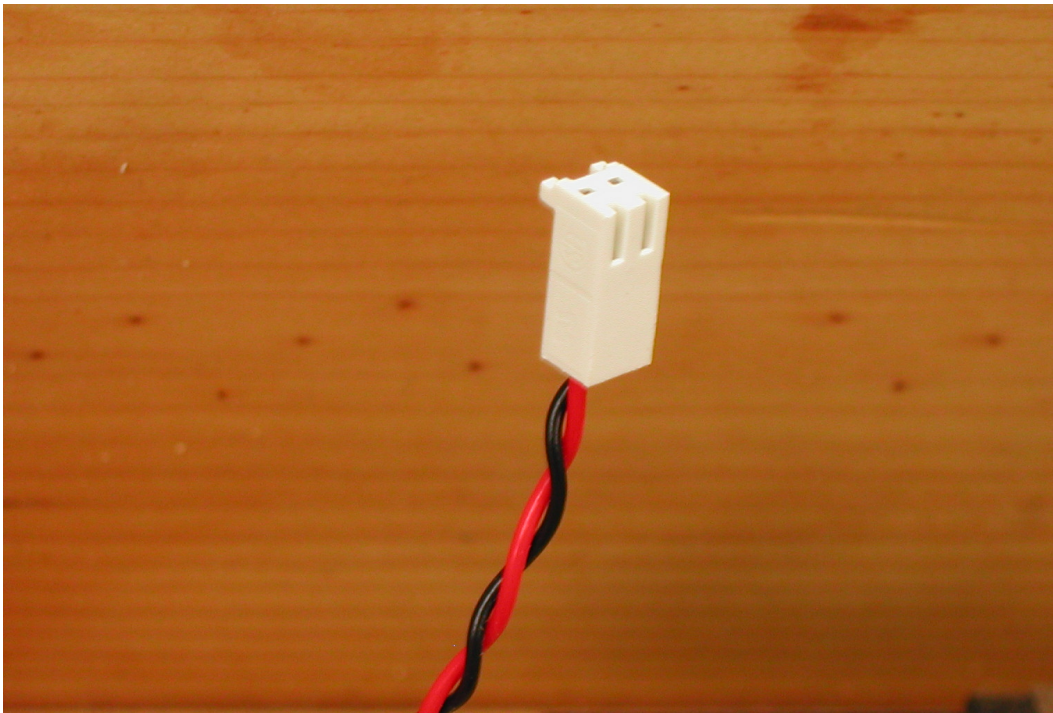

Figure 32: Power wires attached to 2-pin header connector.
6. **Insert crimp pins into 2-pin header connector as far as they go.** You may feel a click; they should not pull out (Figure 32).